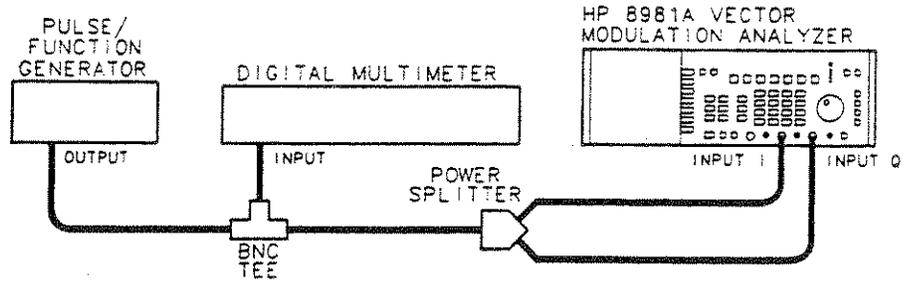

Figure 4-7. DC Vector Accuracy Test Setup
2. Connect the equipment as shown in Figure 4-7: